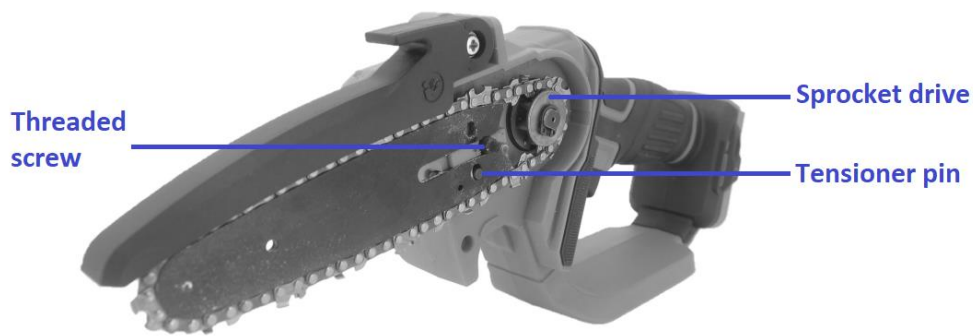
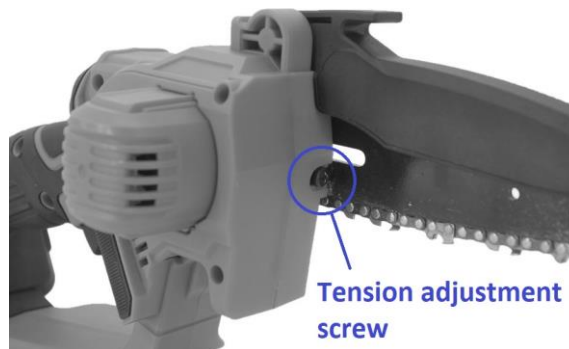

Fig. 2a
Fig. 2b
- Turn the sprocket cover lock (10) anti-clockwise in order to remove the sprocket cover (2).
- Fit the guide bar (with the new saw chain) onto the tensioner pin with the chain laying around the sprocket drive, so that guide bar can fit in the position as illustrated in Fig. 2a.
- Restore the sprocket cover (2) on the chainsaw and tighten the sprocket cover lock (10).
- Turn the tension adjustment screw (with supplied screwdriver) to properly adjust the chain tension (see Fig. 2b).